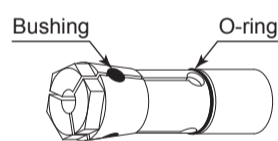

Fig. 5
- Before replacing the collet, ensure that the Bushings (3 pcs.) and the O-ring (1 pc.) are properly and securely attached (Fig. 5). If any of these items are missing, install them before replacing the collet.